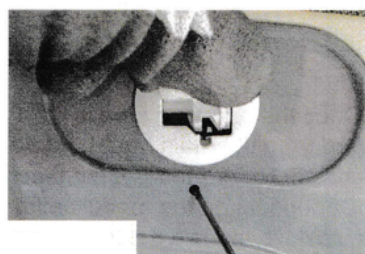

FIGURE 8
15. Open the lid and remove the original lid latch. For metal lid remove (2) Phillips head screws. Glass lid, using a small screwdriver or paper clip, push in on the locking tab and twist the latch to remove. *See Figure 8 and 9.*